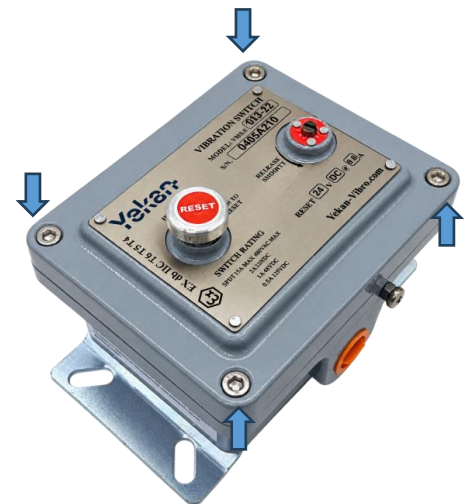

Figure 5. MS60 cover bolts location
7. Reinstall the cover by first ensuring the o-ring is in place and properly seated in the housing's groove. Place the cover on the unit and screw tight (Figure5).